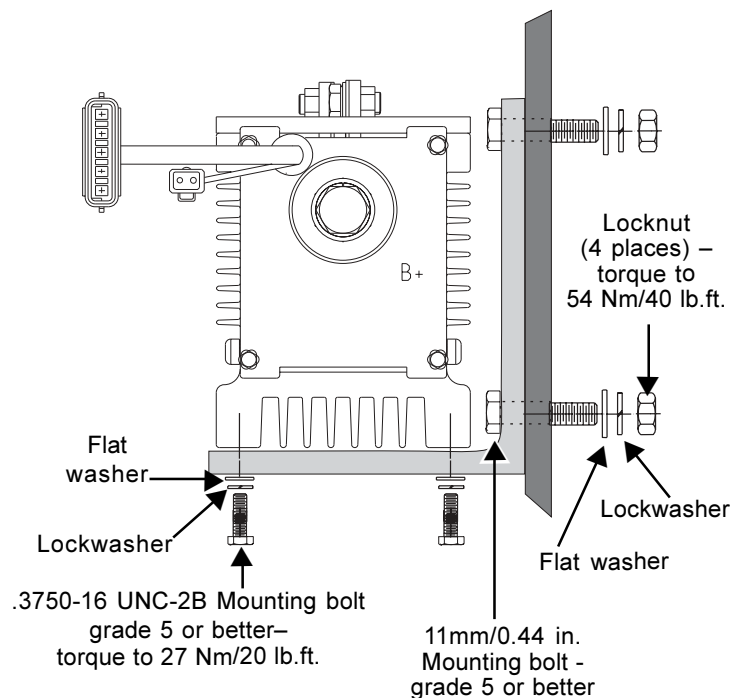

Figure 2 - Rectifier and Bracket Installation
2. Use hardened washers between aluminum surfaces and bolt heads and nuts. Bracket mounting bolts must have minimum .50 in. thread engagement. See Figure 2 for torque values.